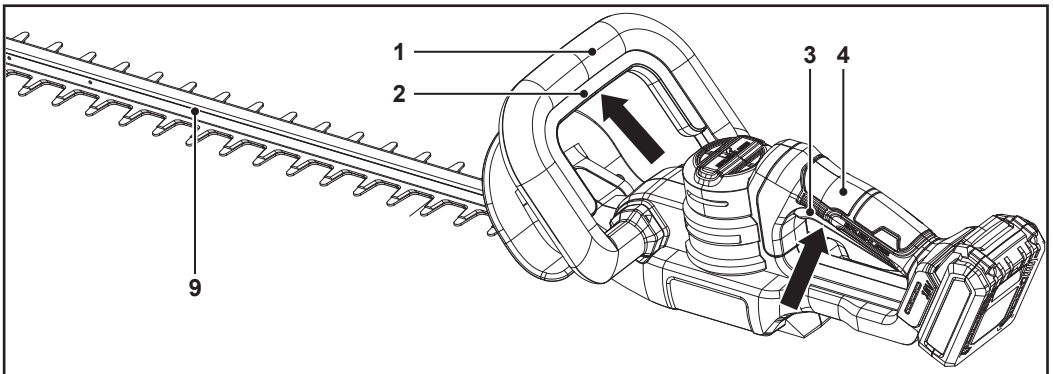

Fig. 5
**Safety switch (2), on/off switch (3):** Hold the machine properly with both hands at the front handle (1) and at the rear handle (4). The machine can operate only if both switches (2, 3) are pressed and hold simultaneously (Fig. 5). If any switch is released the machine stops immediately.
**NOTE:** The machine can operate only if both switches (2, 3) are pressed and held simultaneously (Fig. 5). If any switch is released the machine stops immediately.
1. Remove the blade cover (11).
2. Check if the blade (9) is properly lubricated (see “Care and maintenance”).
3. Attach the battery pack (12) to the machine.
4. Make sure the blade (9) does not touch any objects.
1. Hold the machine properly with both hands at the front handle (1) and at the rear handle (4) (Fig. 5).
2. Press and hold the safety switch (2) (Fig. 5).
3. Press and hold the on/off switch (3) (Fig. 5).